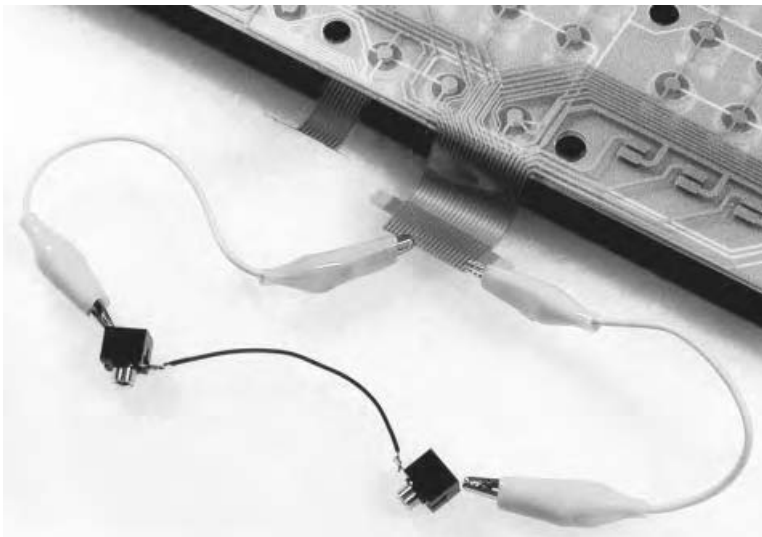

Figure 27.9 Computer keyboard wired for testing audio routing.
Connect a sound source, such as a CD player, to one jack, and connect the other jack to an amplifier. Use a clip lead or solder to connect the wire from the sound source (CD) jack to one of the traces (the traces may be routed to connectors at the edge of the circuit board) (see figure 27.9). Press down a key and touch the amplifier lead to other traces until you hear your sounds; then release the key: if the sound shuts off, you’ve found a cross point in the matrix—mark it somehow. If it doesn’t, you’ve just touched another point along the trace that the sound source is connected to, so keep testing other points until you find a cross.